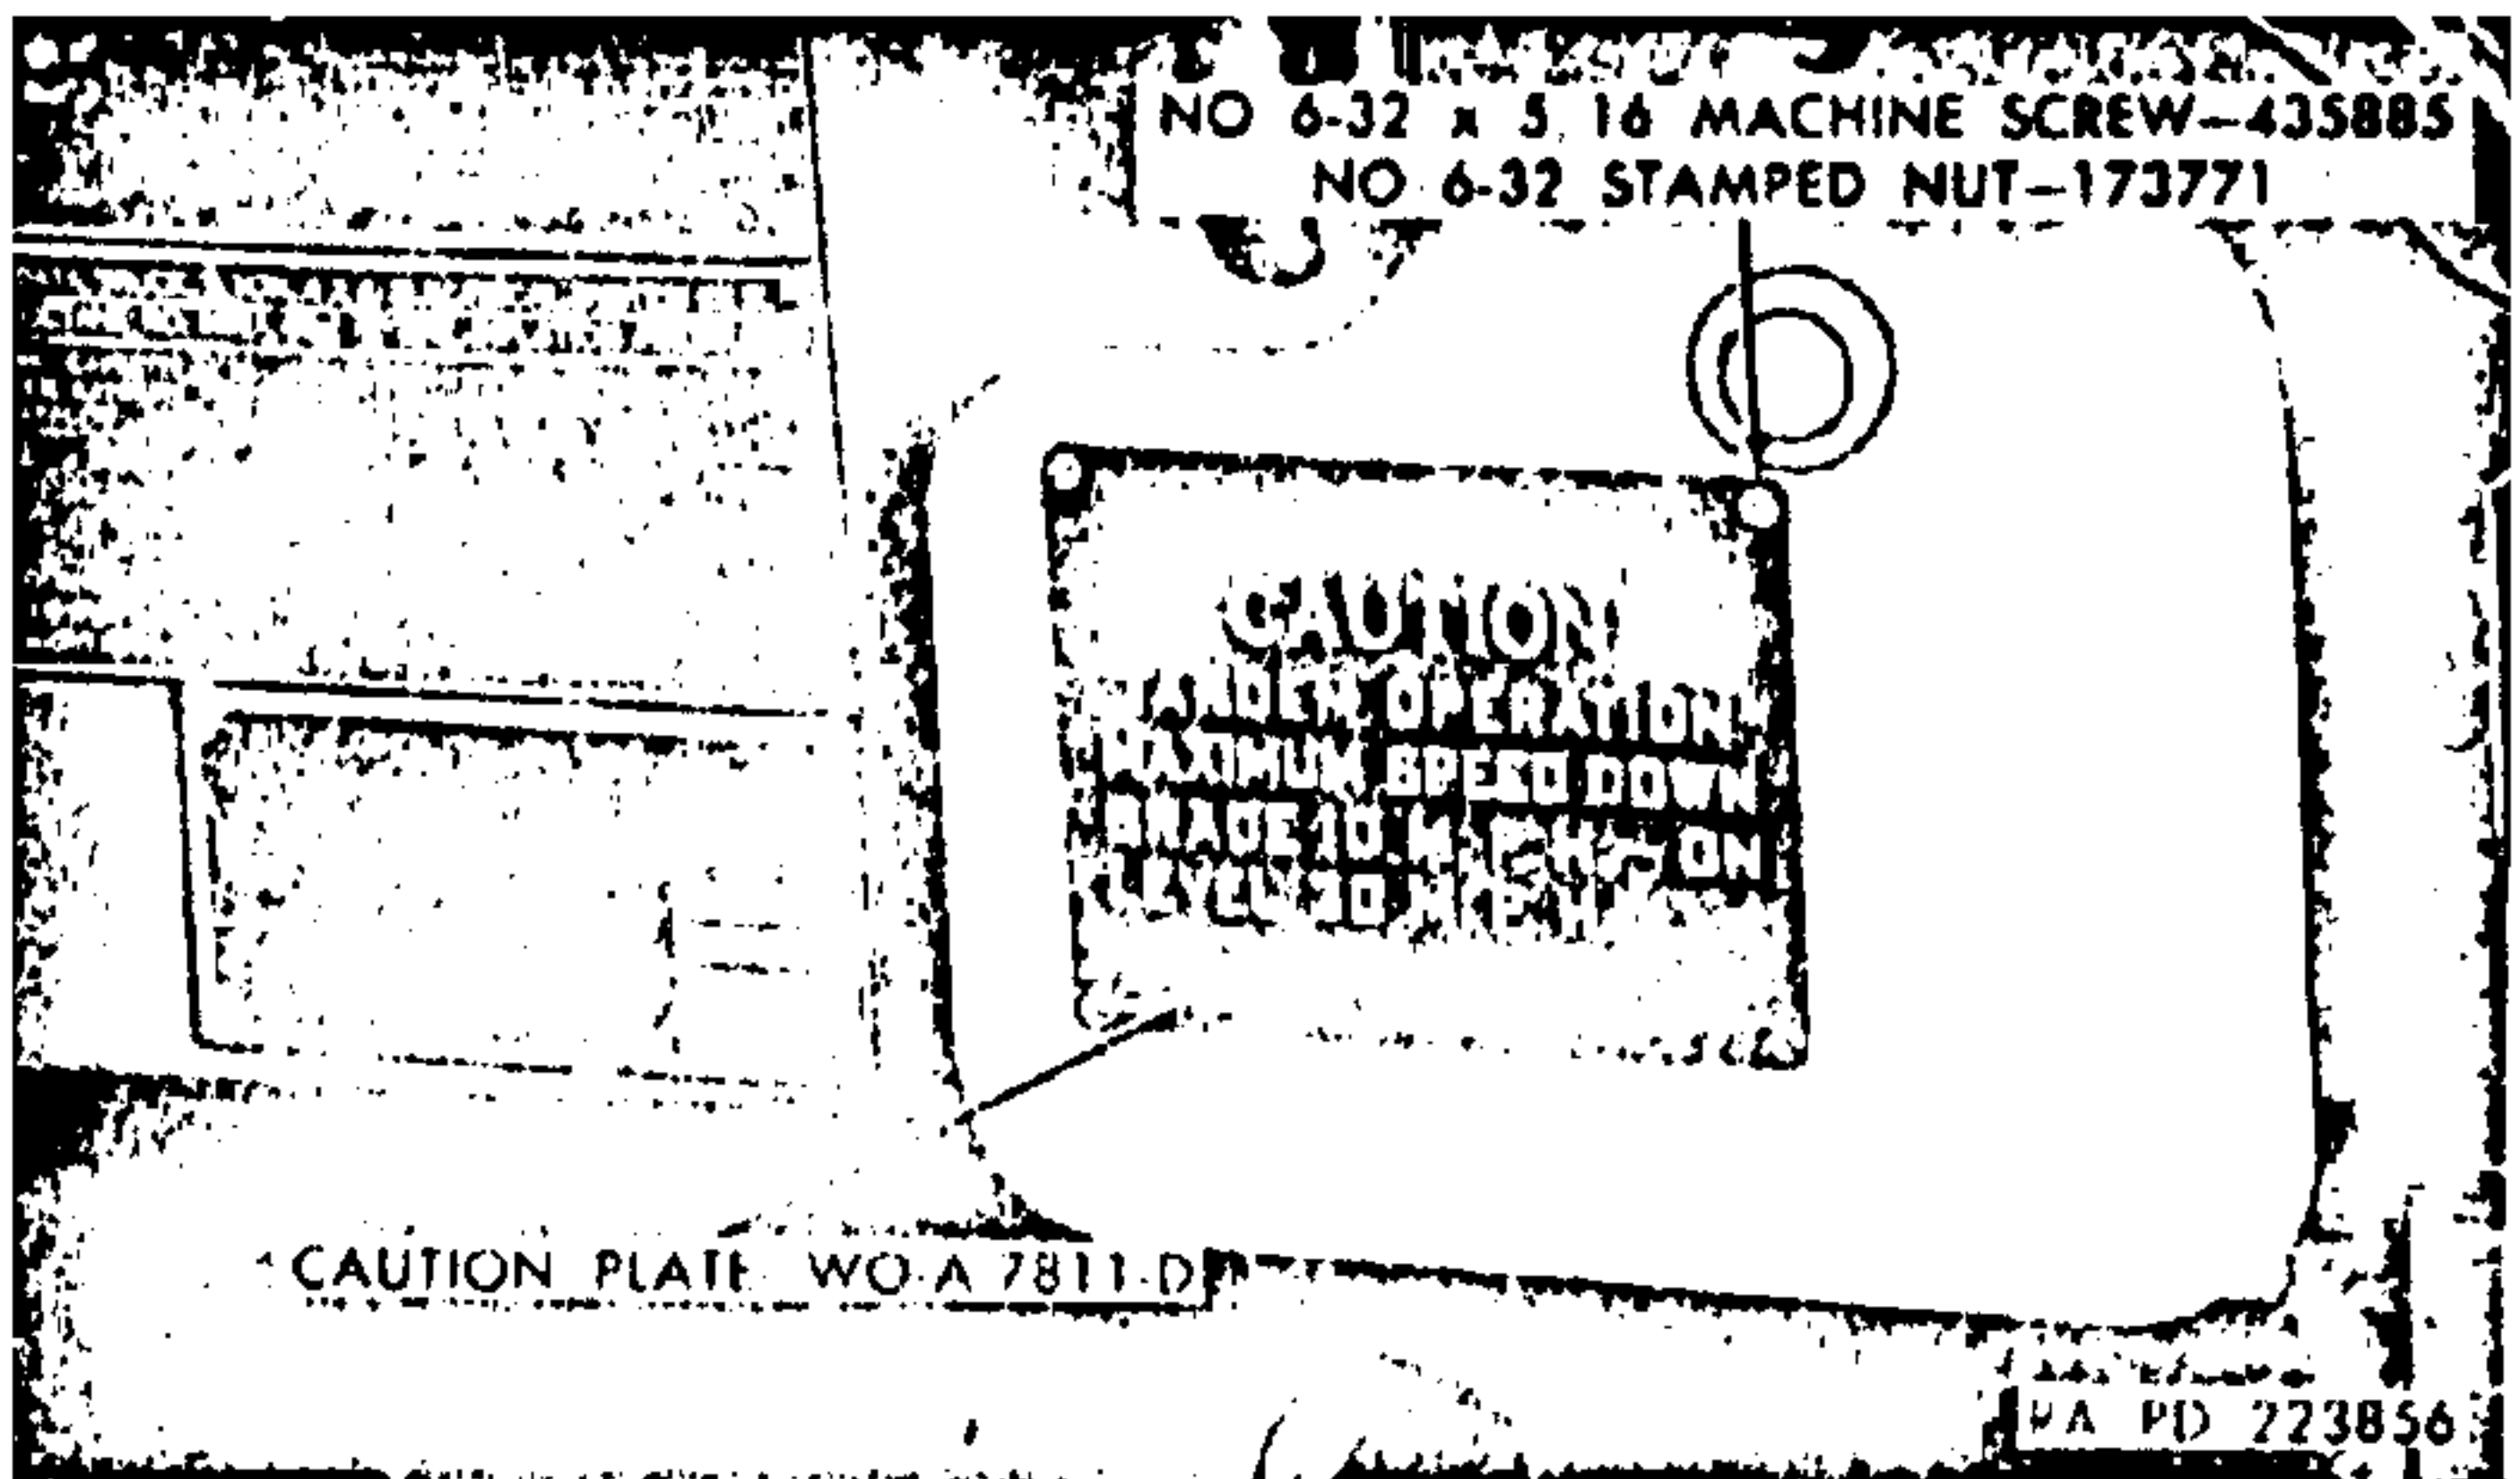

Figure 8. Caution plate mounted on Willys M38.
(a) *Willys M38.* Mount the caution plate WO-A-7811-D (fig. 3) on the door of the glove compartment (fig. 8).
3. Position the plate on the outside of the door and fasten in place using four No. 6 32 x $\frac{5}{16}$ machine screws 435885 and four No. 6-32 stamped nuts 173771 (fig. 8).